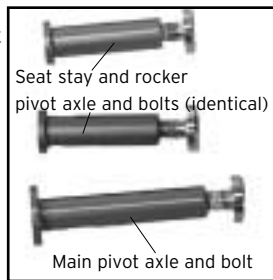

Fig. 33
3. Identify the seat stay pivot bolt (Fig. 32). The bolt has a high polish, while the axle is anodized aluminum. While holding the axle with a 5mm allen wrench, use another 5mm allen wrench to loosen the bolt 4 to 5 turns. Tap the bolt head to partially drive the axle out of the assembly. Once loose, you can probably pull the axle (Fig. 33) out with your fingers. As you remove the axle, be careful not to let the swingarm swing down and hit the frame.